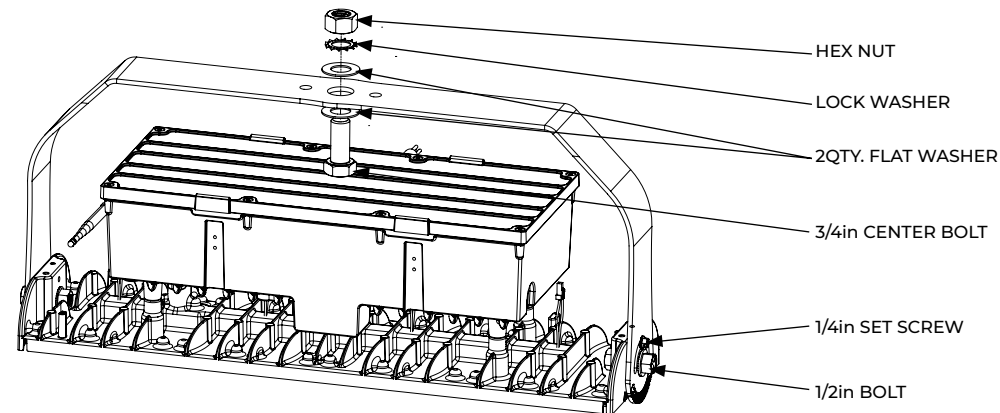

Figure 10.
1. Loosen and remove the existing (4) 8-32 torx screws on the face of the fixture (Fig 10).
3. Use (4) 8-32 philips screws provided to tighten the wireguard in place onto each LED square.